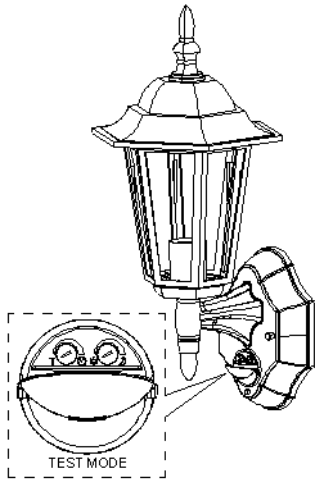

FIGURE 15
- a. Turn the Time and Lux controls fully anticlockwise to enter test mode (FIGURE 15)
(2) TEST MODE
- Turn the LUX control and the TIME control fully anticlockwise – the TEST position. (FIGURE 15)